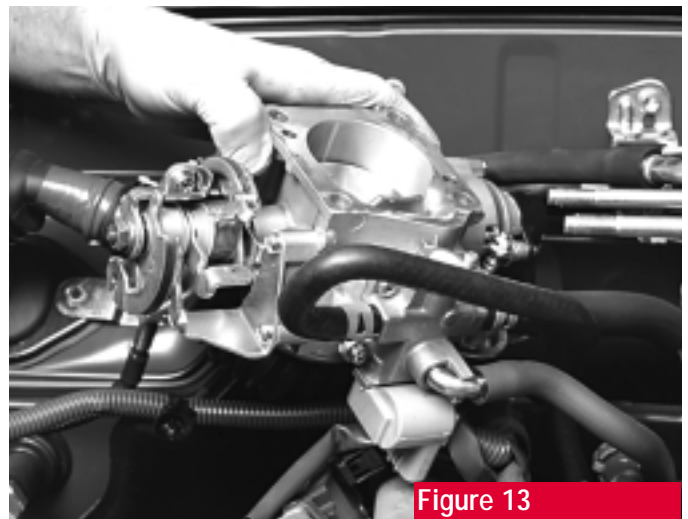

Figure 13
16. Remove the throttle body **with** attached coolant hoses and cruise control cable (if equipped) and set to one side (**figure 13**).